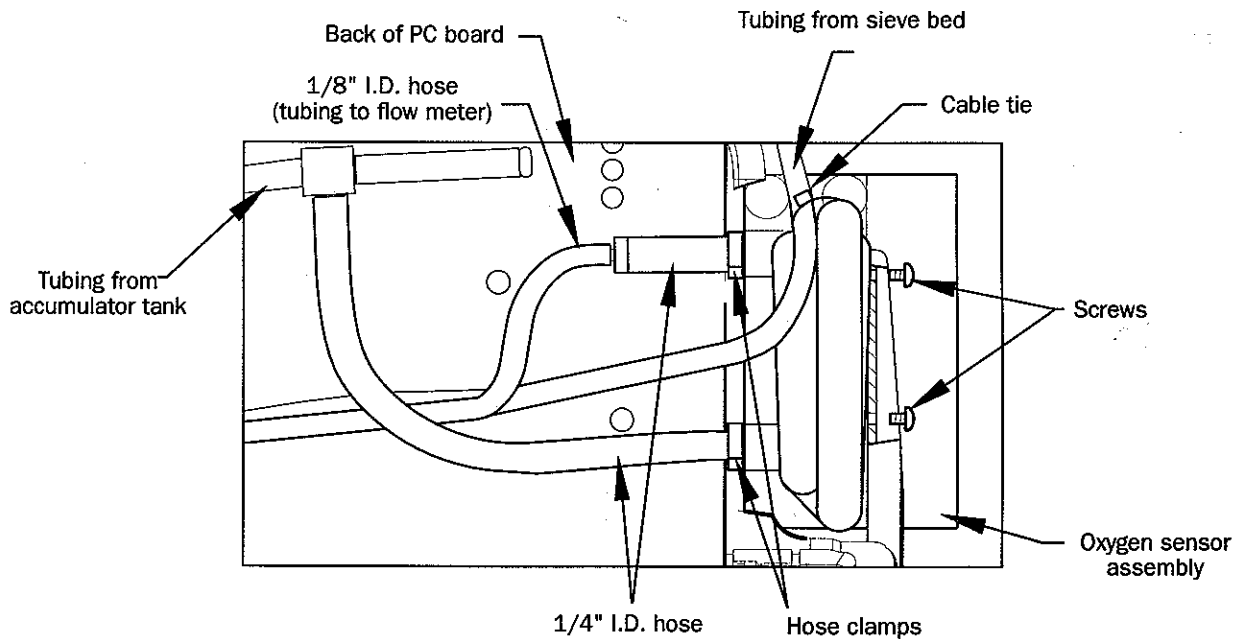

Figure 45
4. Remove the two screws from the bracket located on the side facing the inner structure (Figure 45). Snip the small cable tie that is holding the left bed tubing
5. Remove the two hose clamps and two 1/4" hoses attached to the OSD (Figure 45).